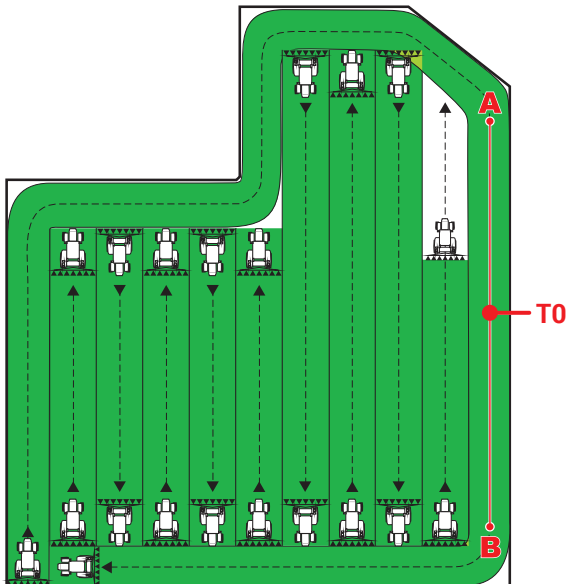

Fig. 252
- Once the line from A to B has been marked (T0), it will be possible to spray the rest of the field along parallel lines (Fig. 252), by following the reference tracks shown on the display (Fig. 253).